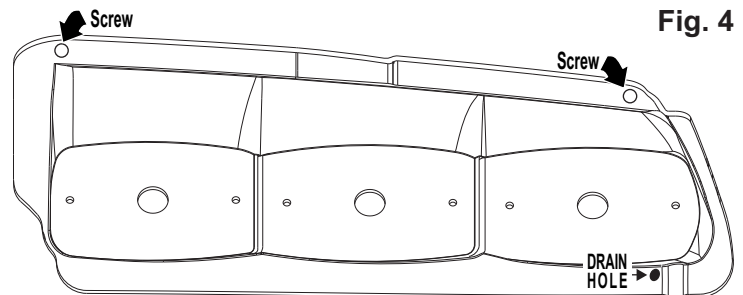

Fig. 4
10. **IMPORTANT!** Once mounted, the housing is not easily removed. Apply RTV sealer to the mounting holes. Place the housing in its exact mounting location. The backing on the mounting tape has leaders. Be sure the leaders are protruding from under the housing so that you can pull them off once the housing is in place. With the housing in place secure the brackets to the vehicle tightening all hardware firmly (Fig. 4).
13. Plug each lighthead into the harness and mount the lightheads to the housing (Fig. 4).
8. After the adhesive is bonded, drill 2 holes in the outside corners of the top of the housing and install the 2 supplied #10 X3/4" Sheet Metal Screws (Fig. 4).
9. Plug the lighthouse cable into the lighthoods and mount the lighthoods to the housing (See Fig. 4 of the front array mounting instructions).